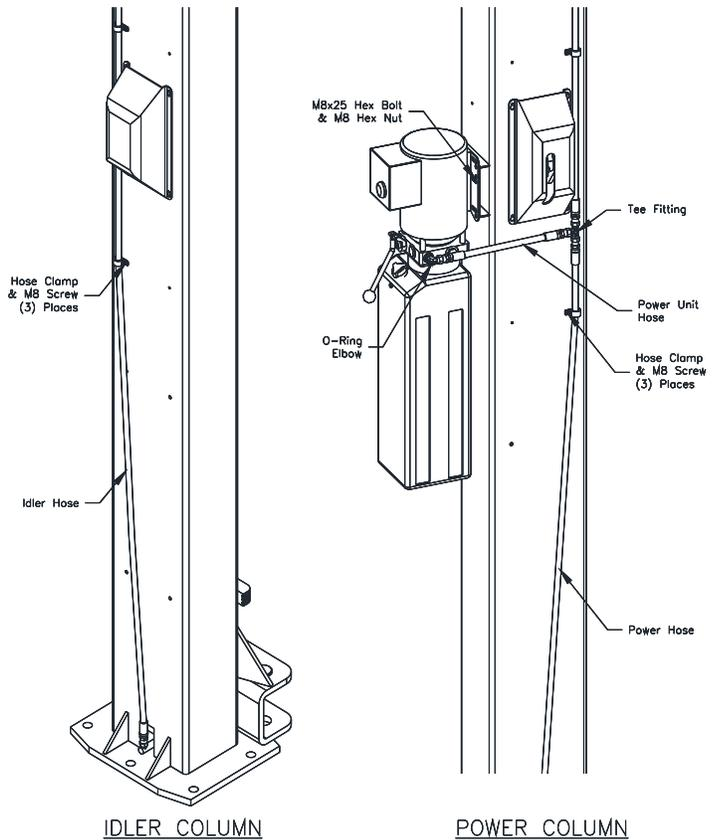

Fig. 7 – Hose Routing
- Attach bolt-on parts to column extensions as shown in **Fig 7** and assemble to columns using M12 x 30 Hex bolts. Ensure power extension assembly is bolted to power column. NOTE: Install Nut and Washers on exterior of the assembly.
- 21) Mount Power Unit to power column as shown in **Fig 7** using (4) M8 hex bolts and nuts.
- 26) Route the power hose from the cylinder elbow fitting to the union tee provided. Connect idler hose and power unit hose to union tee as shown in **Fig 7**.
- 27) Use hose clamps and M8 Screws to secure hydraulic hoses as shown in **Fig 7**.